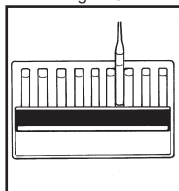

Figure 4
7. Obtain a test result by placing the ampoule between the color standards until the best color match is found (fig. 4)